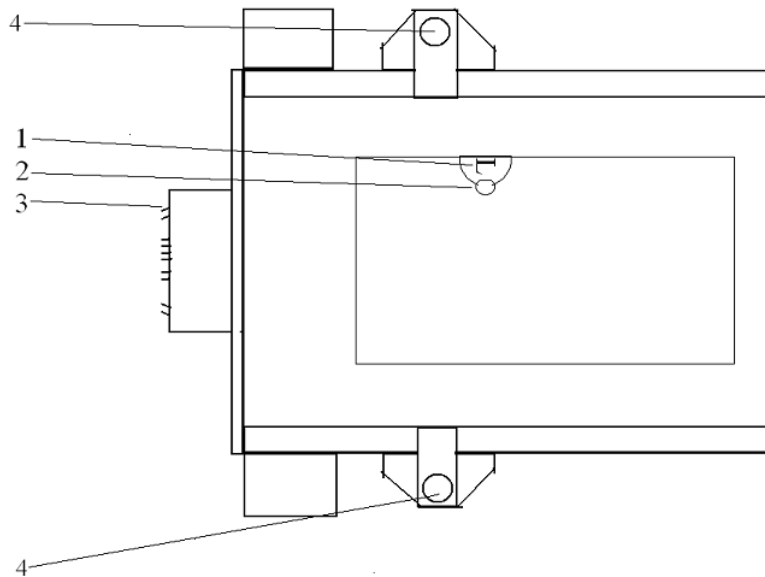

Figure 1 - receiver
- 2.) Place a fairly powerful magnet over the receiver "learn" area (see Figure 1 for location) and hold it there. The LED should illuminate and go to a constant RED state. (if you can't get a response from the LED, try placing the magnet on the back or to the side of the unit's enclosure in the same general area) Once the LED is on, continue to hold the magnet by the area until the RED LED goes out. (approximately 15 seconds) Once the LED goes out, the receiver's memory is cleared
- 4.) Place a fairly powerful magnet over the receiver “learn” area (see Figure 1 for location) for a brief moment (3 seconds), and then remove it.
- 8.) During standard operation, to confirm the receiver is picking up a signal from the transmitter, the receiver will respond to transmitter inputs and illuminate the receiver status LED (see Figure 1).